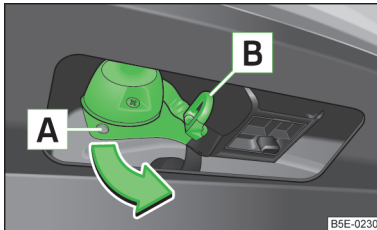

Fig. 158
- Grip the 13-pin socket at point **A** and swing out in the direction of arrow » Fig. 158.
- Grip the 13-pin socket at point **A** and swing in the opposite direction to the arrow » Fig. 158.
The purpose of the safety eyelet **B** » Fig. 158 is to attach the breakaway cable of the trailer.